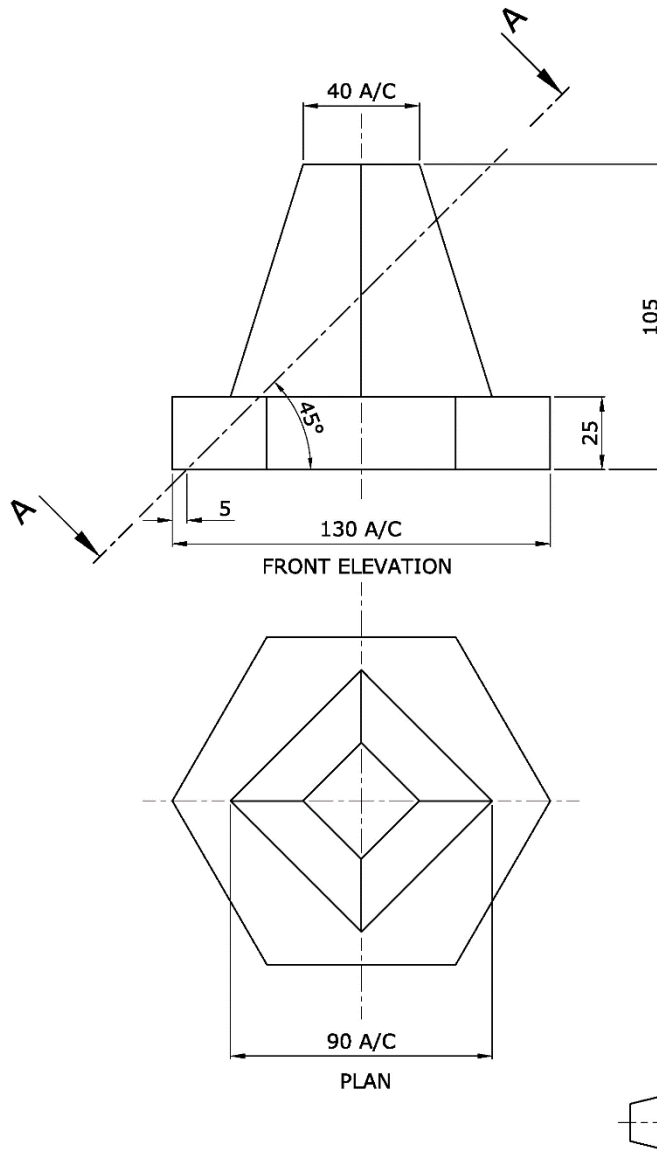

Figure 2b
- a) Copy, full size, the given front elevation shown in Figure 2b. (1)
- b) Complete the plan view of that part of the stand below the section plane A-A. (4)
- c) Construct the auxiliary plan for the section A-A. (8)